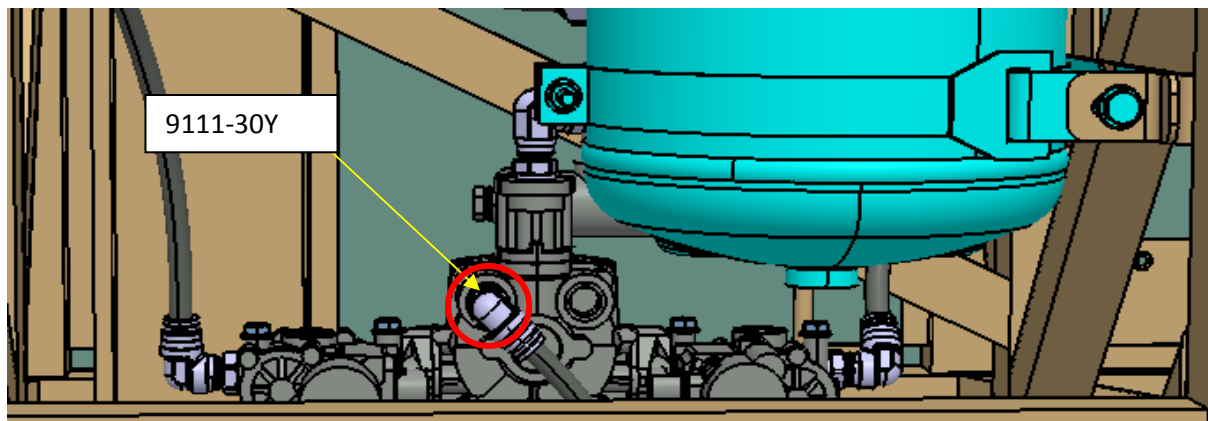

Figure-3
*Remove the connector (9111-30Y) under brake relay show in Figure-3